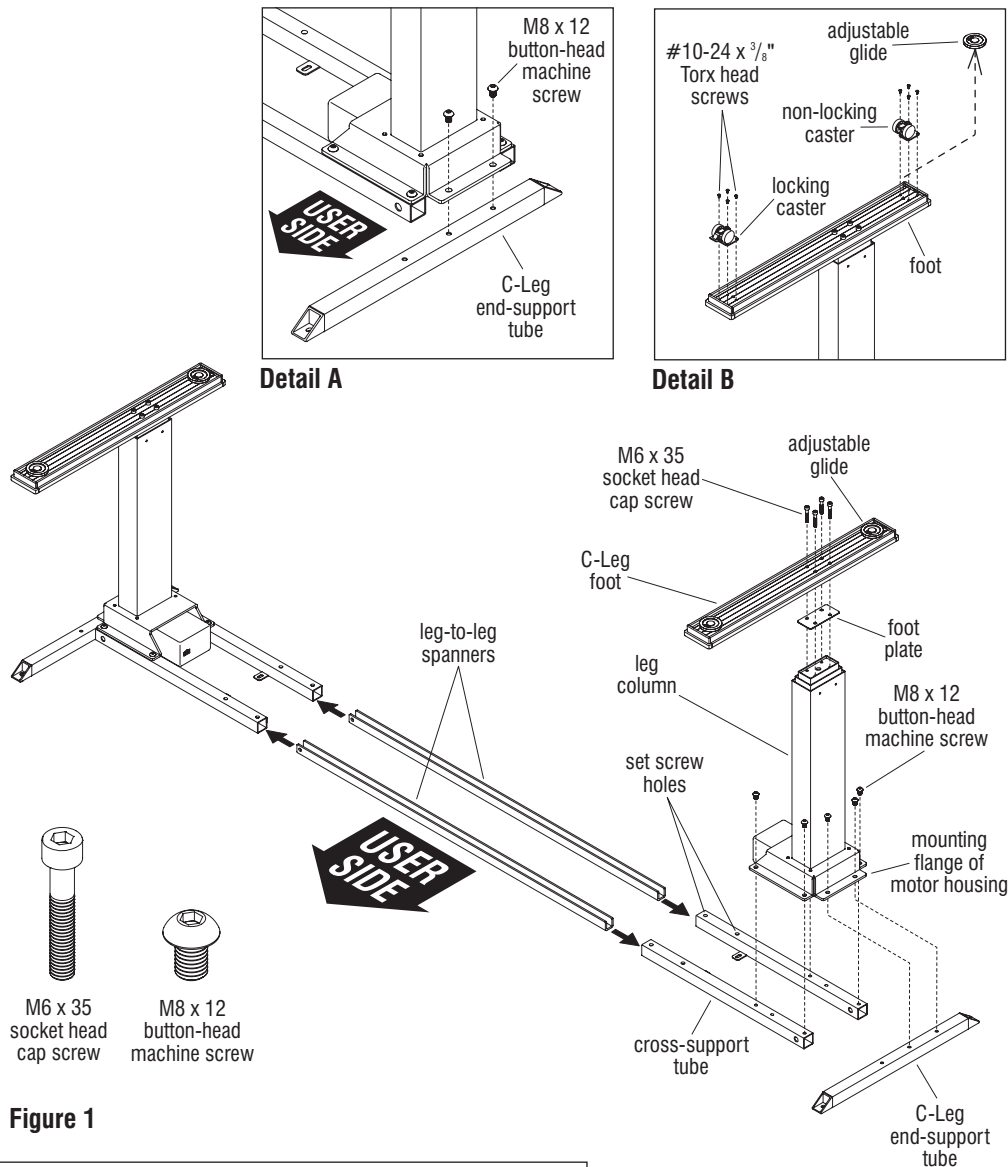

Figure 1
- Carefully remove contents from packaging, set out on a soft, clean surface and refer to Figure 1 to identify the parts required for assembly.
- Position the two cross-support tubes (with mounting tabs facing down and facing inwards), and one C-leg end support tube out as illustrated. Place a leg column assembly over the three support tubes and align six mounting holes of the leg column with appropriate mounting holes of the three tubes as illustrated. The C-leg end support tube contains three mounting holes but only the two non-user side holes can be used. Make sure the tube has the longer end and one unused mounting hole, facing the user side as illustrated (Detail A). Using six M8 x 12 button head machine screws torqued to 9.5 ft/lb, secure the flange of the leg column to the three support tubes (Figure 1).
- Assemble the C-leg foot to the leg column by first positioning a plastic foot plate over the mounting location on the leg column. The foot plate must be oriented so the raised flange faces into the column, to nest the foot plate into place. Next, position a foot over the foot plate and leg column as illustrated, with the mounting holes of the foot aligning with those of the leg column. It is important that the longer end of the C-Leg foot face the user side. Once foot is correctly oriented, secure the foot to the leg column with four M6 x 35 socket head cap screws. Torque to 7.5 ft/lb (Figure 1).
- Repeat steps 2 & 3 for second leg assembly and step 4 if casters are required (Figure 1).
- Position two leg-to-leg spanners with channel opening face up, then slide both spanners into the open ends of each base tube of both base assemblies. Slide bases together, but do not secure with set screws at this time (Figure 1).